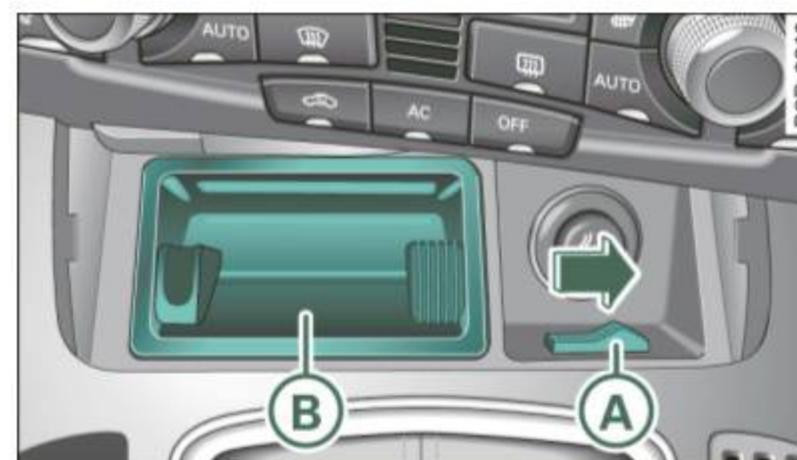

Fig. 95 Center console: front ashtray
- Release the ashtray insert by sliding the switch **(A)** ⇒ *page 88*, fig. 95 to the right.
- Remove the ashtray insert **(B)** ⇒ *page 88*, fig. 95.